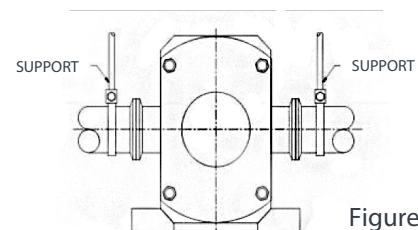

Figure 1
- Support all piping independently to minimize the forces exerted on the pump. (Figure 1)